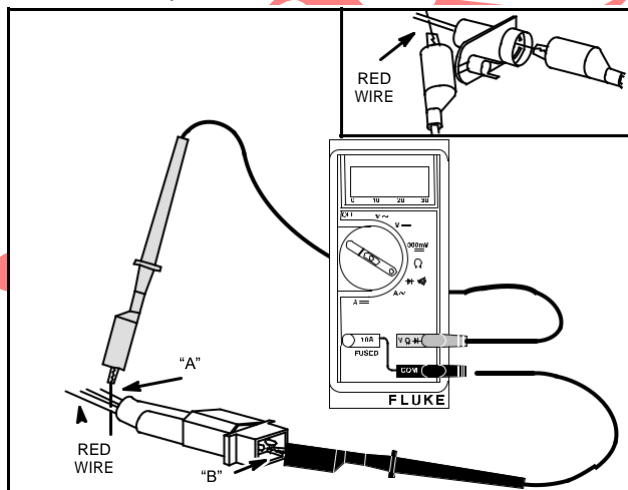

Fig. 17 – Testing Diode
4. Attach RED test lead clip to point “A” and BLACK test lead clip to point “B,” Fig. 17. (It may be necessary to pierce wire with a pin as shown.)